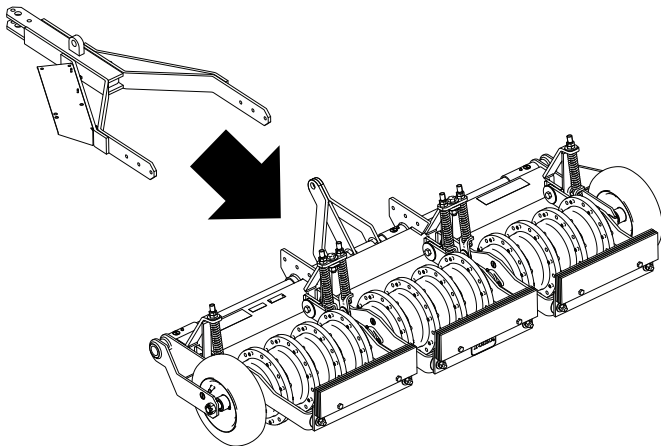

Figure 4
2. Align the tongue assembly with the aerator as shown in Figure 4.